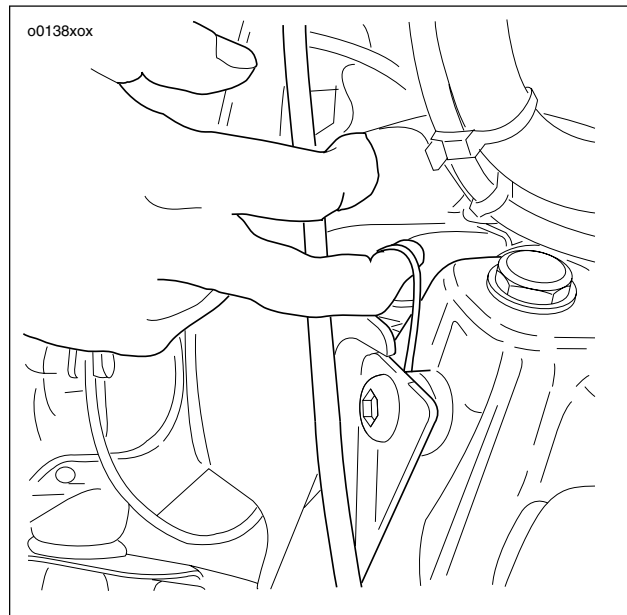

Figure 4-3. Windshield Mounting
1. See Figure 4-3. Lower the windshield into position carefully inserting the side brackets between the headlamp and the passing lamp supports until the bottom notches are seated in the lower bushing grooves.